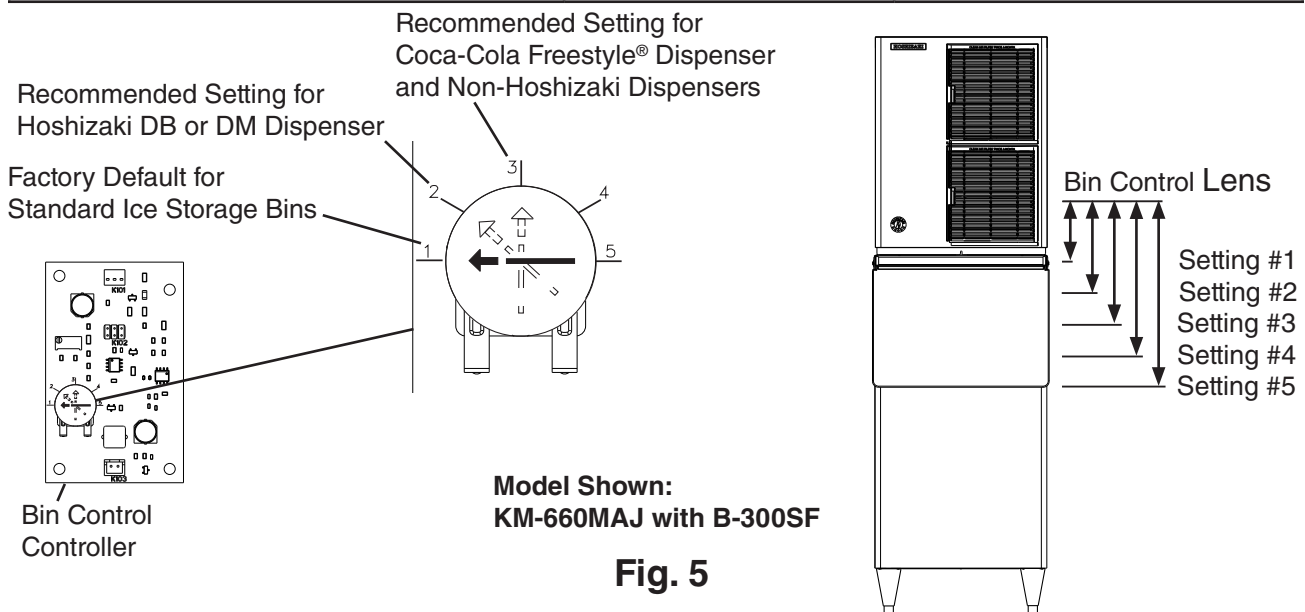

Fig. 5
- 2) Confirm bin control controller setting for proper application. See the table below for settings. See Fig. 5 for ice level reference.
- 3) Remove the base cover, disconnect the water tank end of the pump tubing to drain the water tank. See Fig. 5. After the water tank has drained, reconnect the pump tubing.